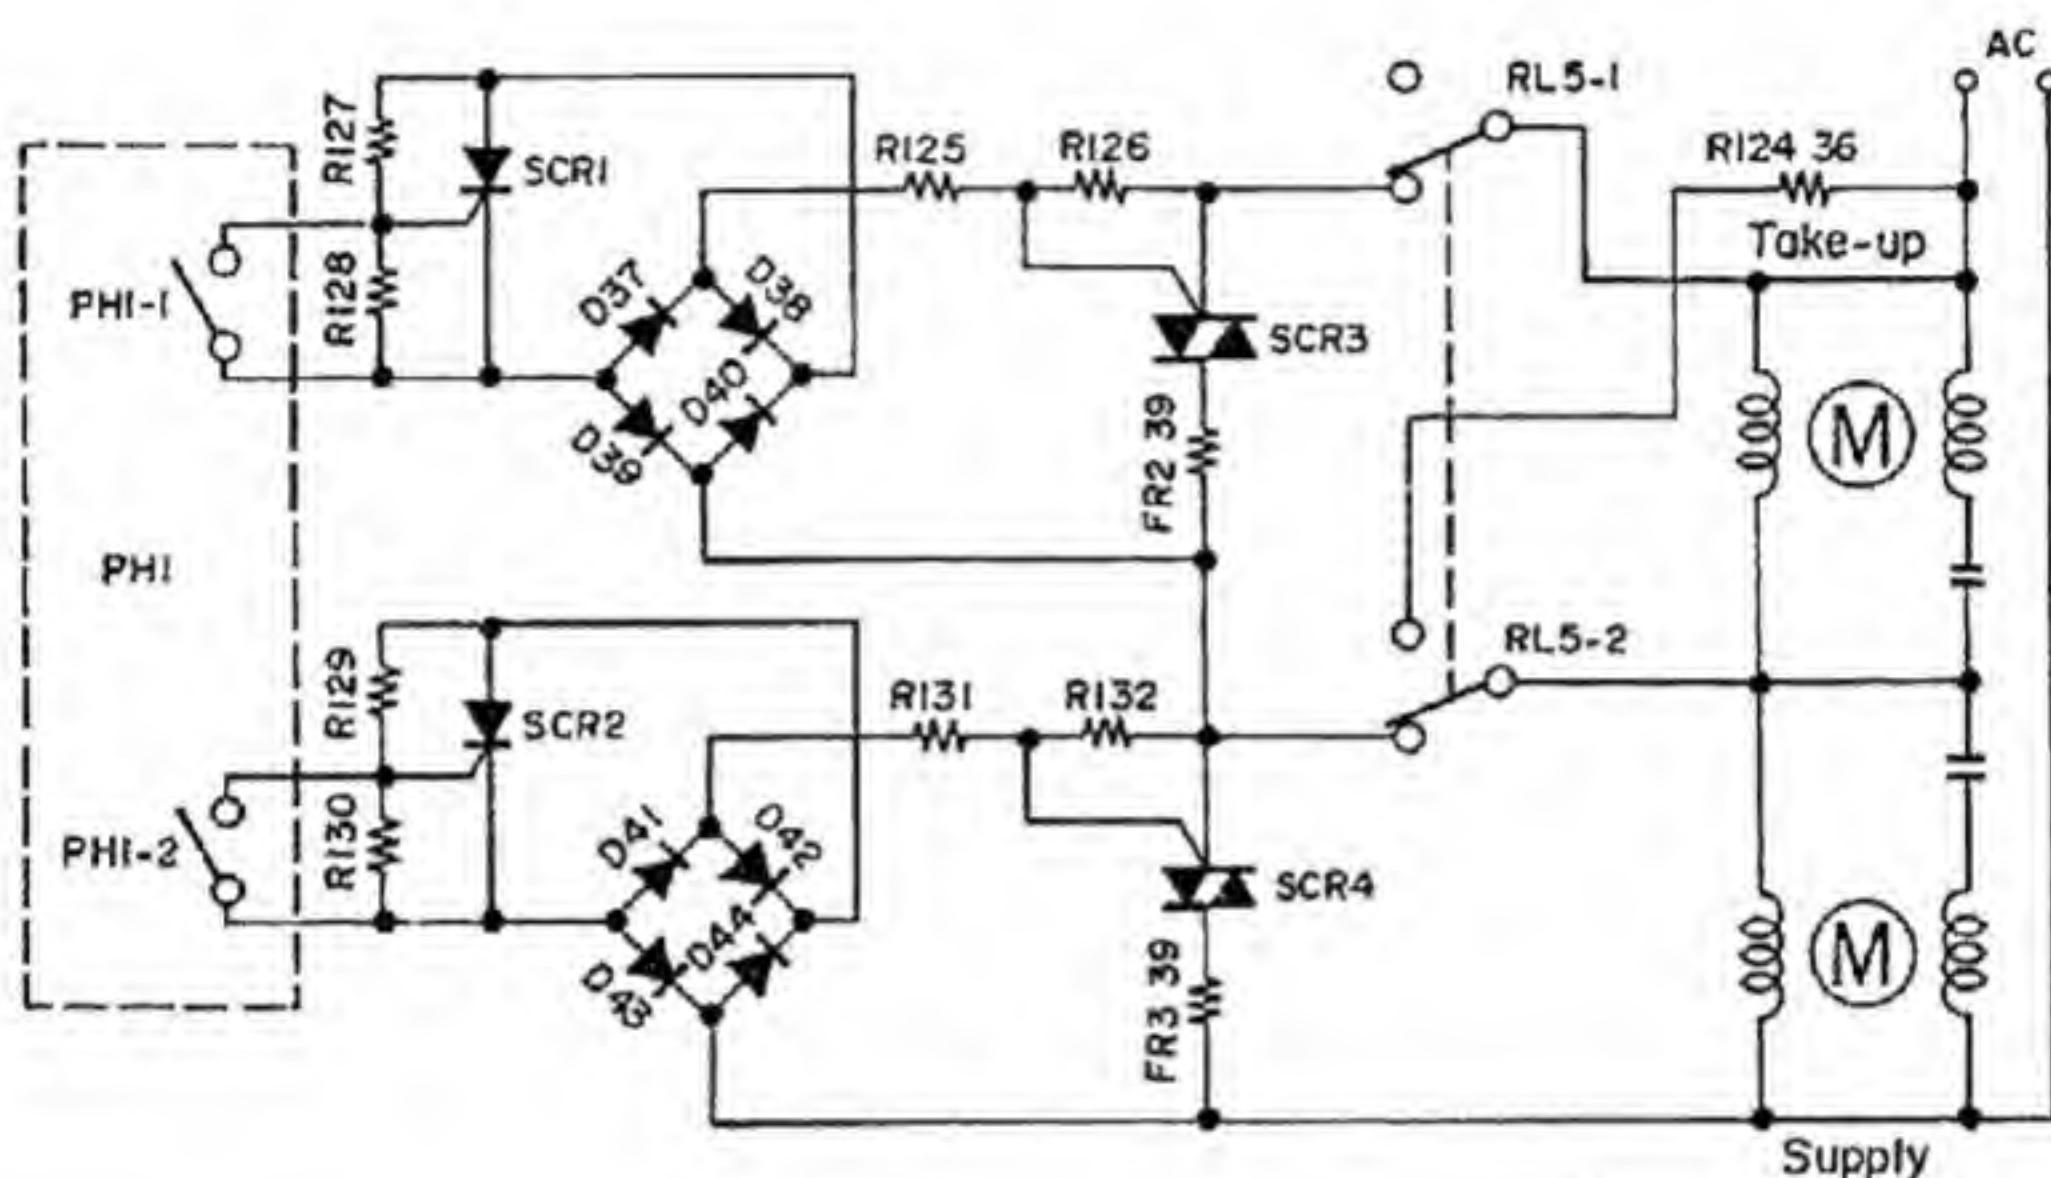

Fig. 30
"H" enters the base of TR42 through R115 to turn TR42 ON and RL5 ON. Fig. 30 shows the condition when RL5 is ON. R124 36 ohms so far attached is disconnected from the take up reel motor. Suppose the signal of IC2 ⑪ (reel motor control) is in "L". TR40 is OFF via R108, and TR38 is turned OFF via R104. TR38 collector will be "H". The base of TR49 will be "H" through R106 to turn TR39 ON, i.e., the switch of PH1-2 is ON.